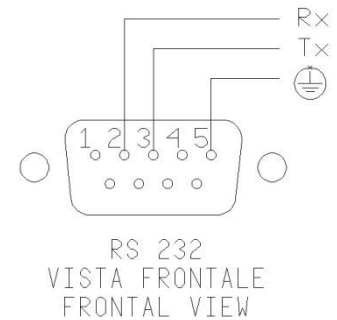

Fig.7
- Connect the thermostat's electrical terminals to the bushes terminals (4).
On the front of the calibrator there is a 9 pole socket (5) connected to the thermo-regulator, which enables the calibrator to be completely controlled by a PC (reference to fig.7). The standard adopted RS-232 (contact the technical department for the communication number).